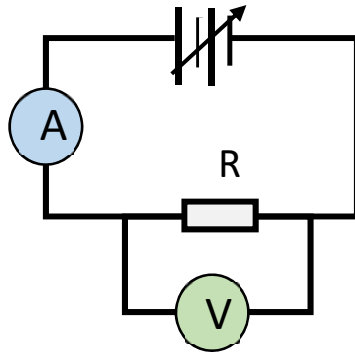

Figure 1
Therefore to measure the resistance of a resistor involves the simultaneous measurement of voltage and current. Two possible circuits are shown, respectively in Figure 1 and 2.
- (b) Set up the circuit of Figure 1 using the analogue multimeter for the voltage measurement, and the $10\text{k}\Omega$ resistor for R. Take five different measurements of voltage versus current in the range of 0 to 10 volts, plot a graph and deduce from it a value for R. Repeat for $1\text{ M}\Omega$ resistor.